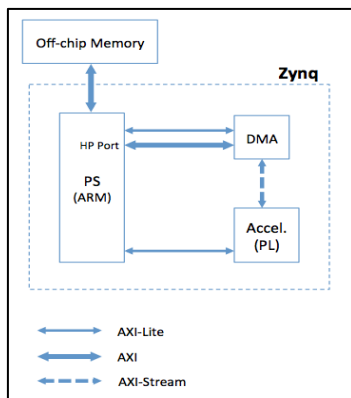
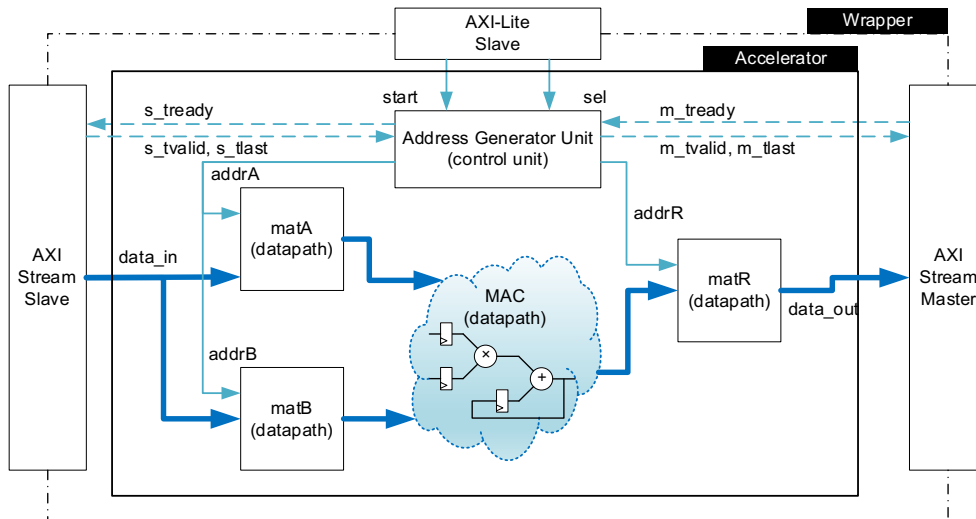

Figure 1 Zynq with accelerator
Figure 2 Accelerator micro-architecture
In this lab, we will not be designing the whole system. Instead we will only deal with designing and testing the accelerator (shown as “Accel. (PL)” in Figure 1), with a focus on the AXI bus communication. We will provide a design skeleton and all you need to do is to fulfil the TODO list in the skeleton code. However, it is very important to see the bigger picture (such as what components the accelerator has and their working detail), in order to understand the part that you will be working on. The following sections will guide you through some key components in the accelerator design.
The micro-architecture of the accelerator you will be working on (shown as “Accel. (PL)” in Figure 1) is given in Figure 2.
- S_LOAD_A: Load matrix A from the AXI stream bus. This state should generate controlling signals for the AXI stream slave interface in Figure 2 as well as addresses for matA during matrix loading.
- S_LOAD_B: Load matrix B from the AXI stream bus. Again, this state should generate controlling signals for the AXI stream slave interface in Figure 2 as well as address for matB during matrix loading.
- S_OUTPUT: Output matR to the AXI stream master interface in Figure 2 after the whole matrix multiplication is done.